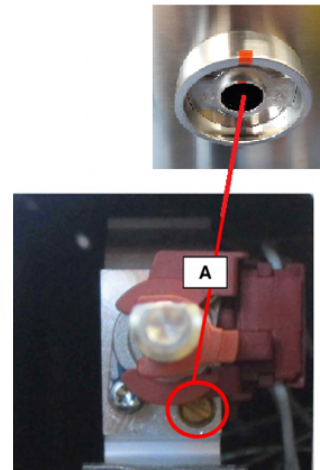
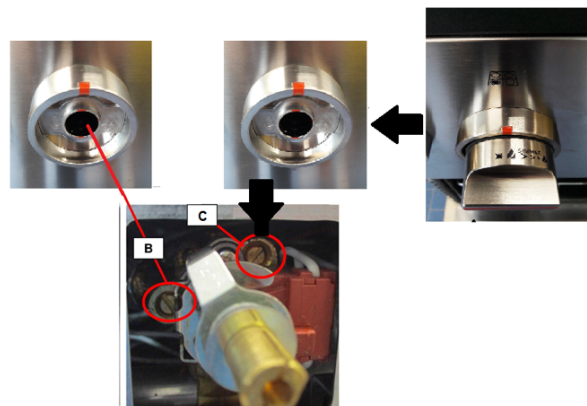

Figure 2: The burner tap with single flame
Figure 3: The burner tap with double flame
- 1) Unscrew the regulator cap. (figure2)
- 3) Insert a slender, thin-blade screwdriver into the recess behind the control knob (Figure 2 for single flame and Figure 3 double flame) and engage blade with slot in adjusting screw. (A single flame; B double flame)
- 4) If the flame performance is not acceptable it may be necessary to readjust the valve screw (fig. 2 and 3 on page 34) for a burner that does not have sufficient carry-over of the flame.